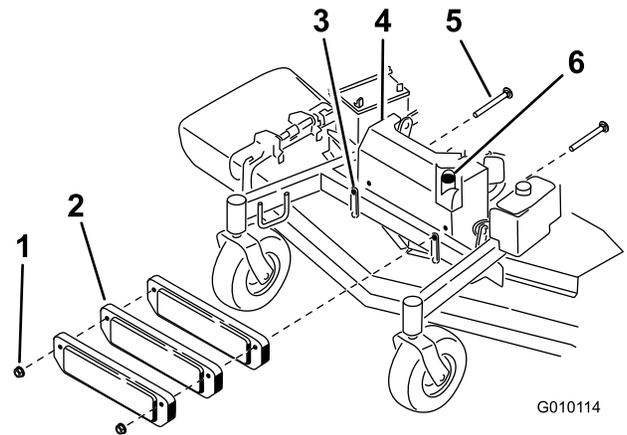

Figure 1
- Weights are installed to improve handling, balance and improve performance. Weights can be added or removed to create optimized performance under different mowing conditions and for operator preference (Figure 1).
5. Loosen the nuts on the four muffler guard mounting bolts (Figure 1).
10. Install the weight onto the bolts with the clamp bar in place behind the weight (Figure 1).
12. Tighten the four nuts and ensure the muffler exhaust tube is centered in the muffler guard opening (Figure 1).